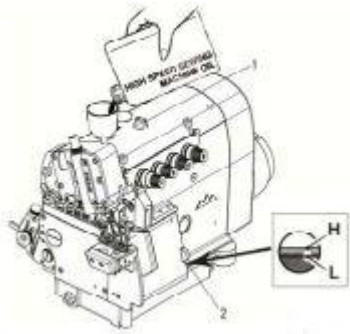

Fig.2
2. To fill the machine with oil (Fig.2)
3. Required amount of oil (Fig.2)